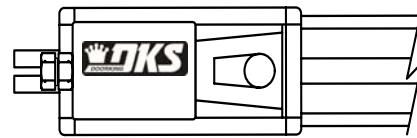

Figure 11
10. Rotate the small electrical housing cover on the actuator so that the DKS logo is right side up (fig. 11).